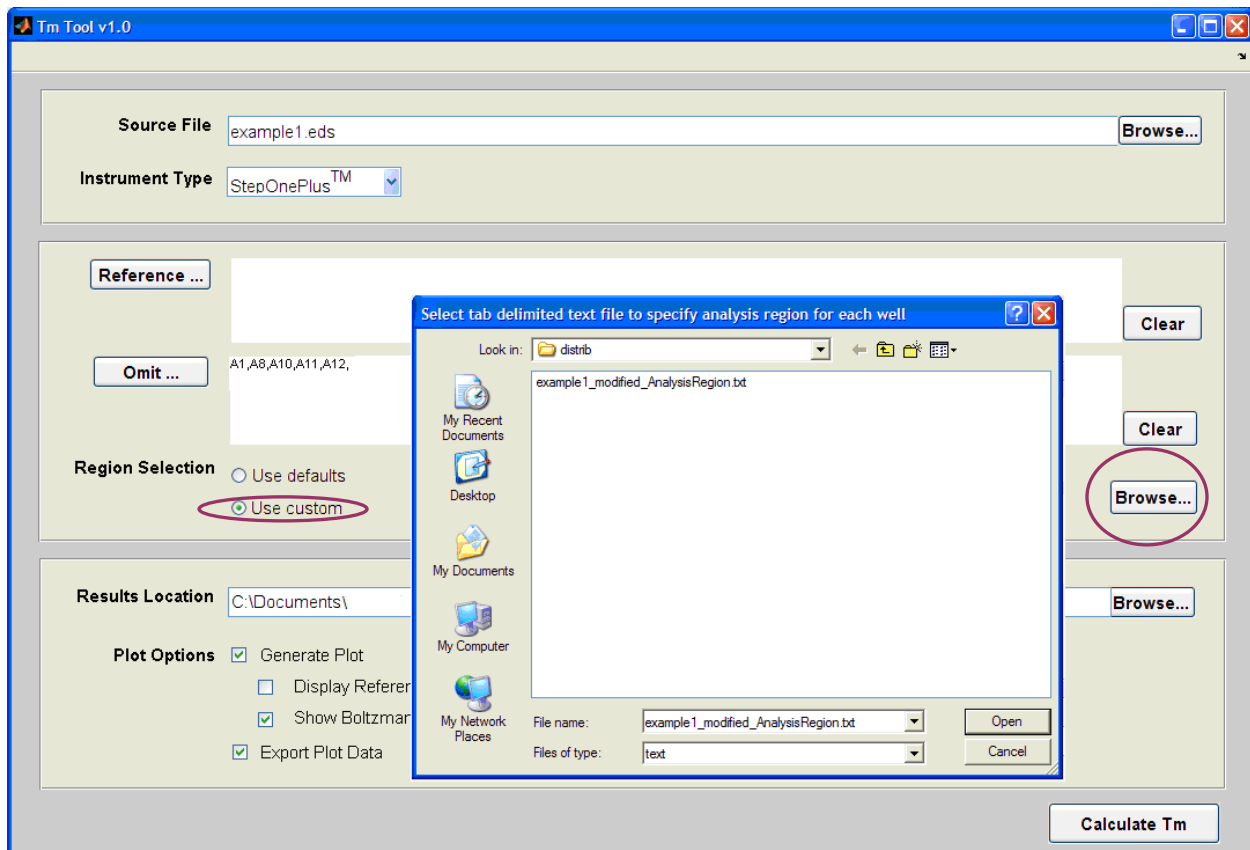

Figure 7: Select file with custom analysis regions defined
3. Select the "Use Custom" option from the TmTool™ application as indicated in Figure 7. The "Browse" button is activated. Click Browse to navigate to the location where you saved the analysis region file (step 2).